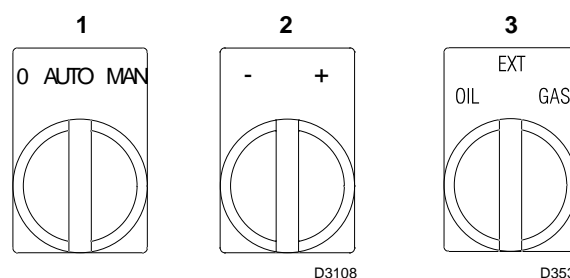

Fig. 34
Close load controls and set switch 1) (Fig. 34) to "MAN".
- 2 using selector 3) (Fig. 34);
By setting selector 3) (Fig. 34) to EXT, you activate the remote fuel selection facility.